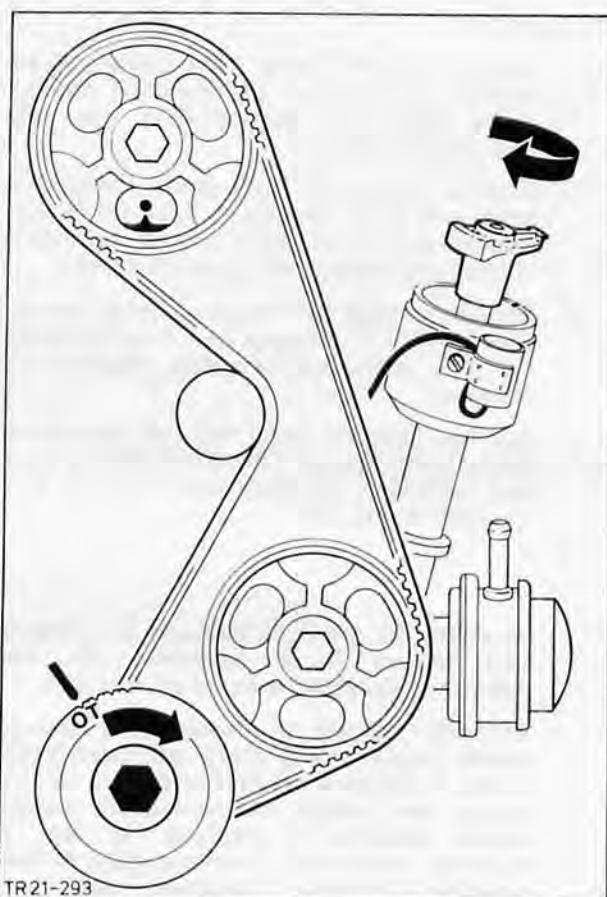

Fig. 208. No. 1 piston in TDC
5. Check whether camshaft, crankshaft and distributor rotor marks line up on TDC mark for 1st cylinder, Fig. 208, fit toothed belt and secure crankshaft belt pulley to specified torque.